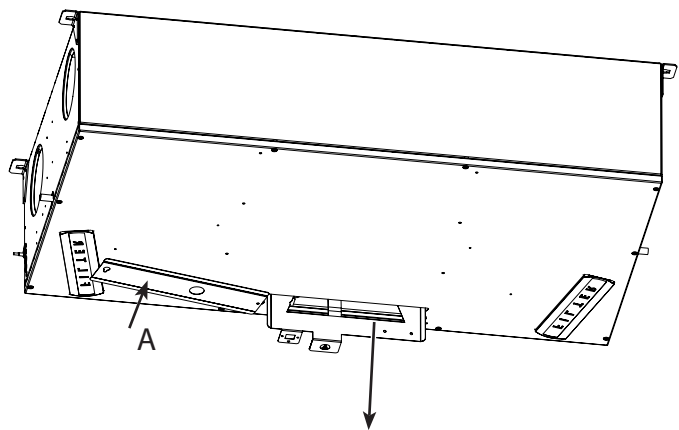

Fig. 22
The integrated controller has various options to connect additional external equipment. To gain access to the controller, please open the print cover (A) of the unit, by turning it all the way around as shown in fig. 22 .